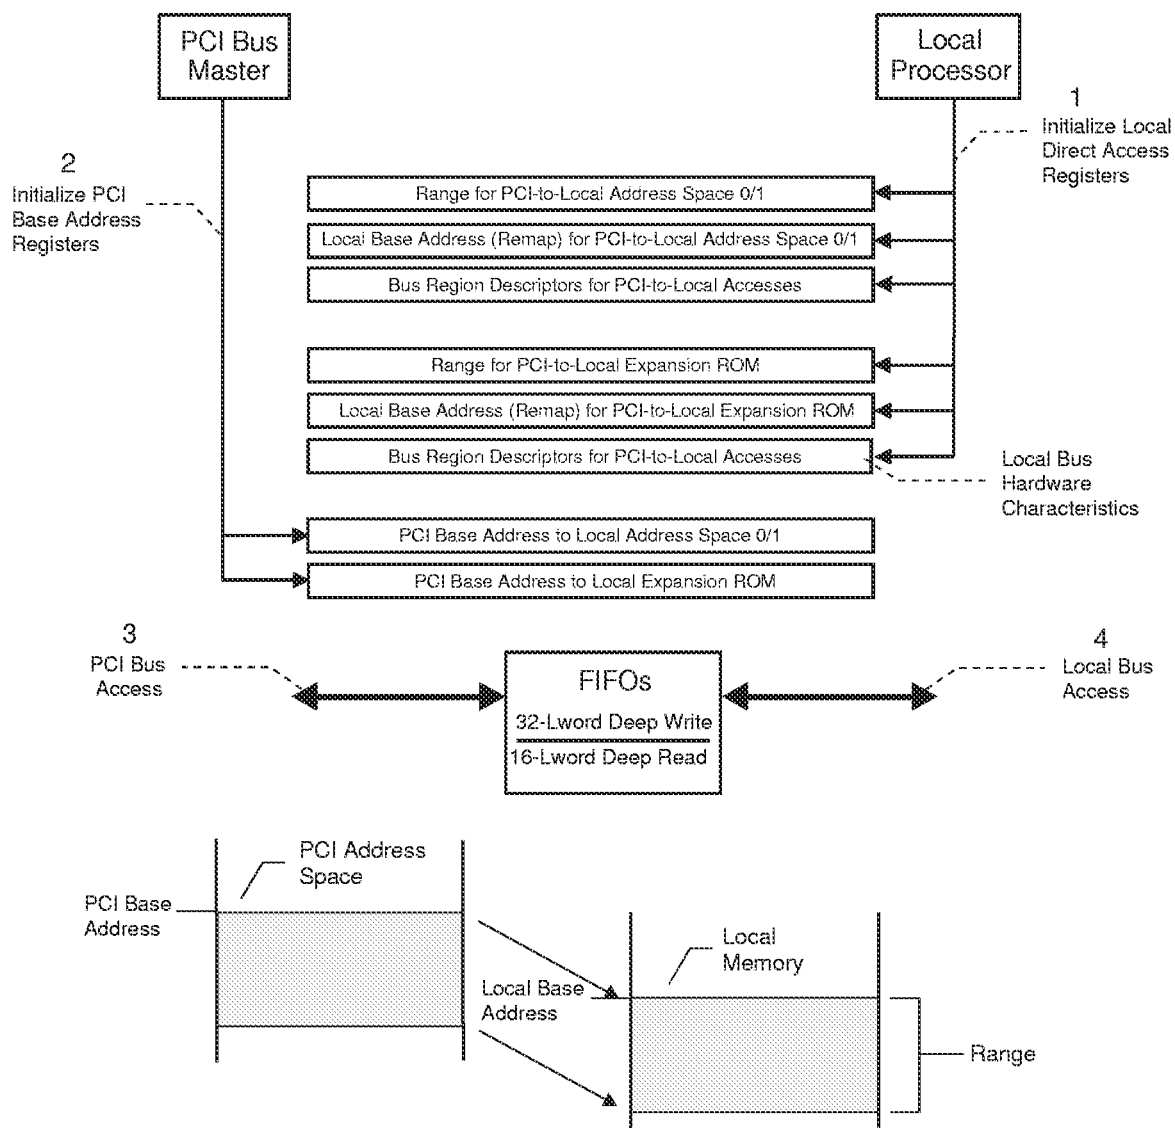

Figure 5-10. Local Bus PCI Target Access
A fourth register, the Bus Region Descriptor register for PCI-to-Local Accesses (LBRD0 and/or LBRD1), defines the Local Bus characteristics for the PCI Target regions (refer to Figure 5-10).
After a PCI reset, the software determines how much address space is required by writing all ones (1) to a PCI Base Address register and then reading back the value. The PCI 9054 returns zeroes (0) in the Don't Care Address bits, effectively specifying the address space required. The PCI software then maps the Local Address space into the PCI Address space by programming the PCI Base Address register. (Refer to Figure 5-10.)